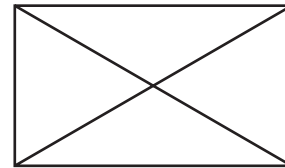

Fig. 7-10
- Figure 7-10 shows the end view of a structural member for an architectural drawing. Create the rectangle using the **LINE** command and the following keyboard entries.